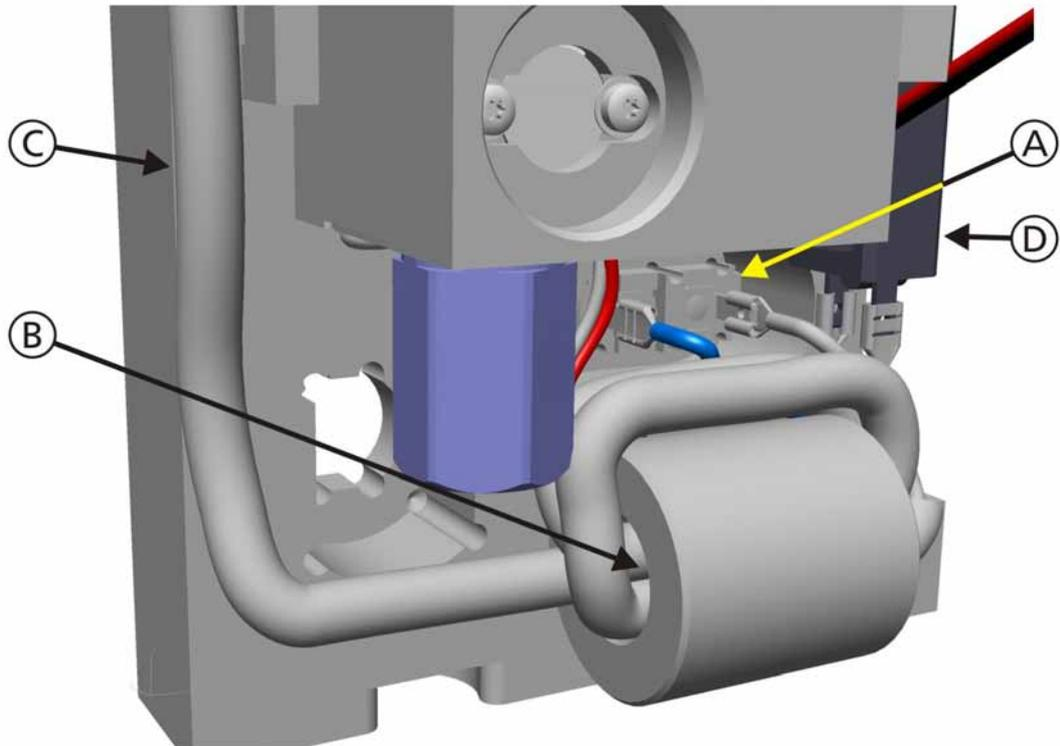

Figure 11-48. Mains Power Cable Assembly
- Figure 11-48, *Mains Power Cable Assembly*, on page 11-55